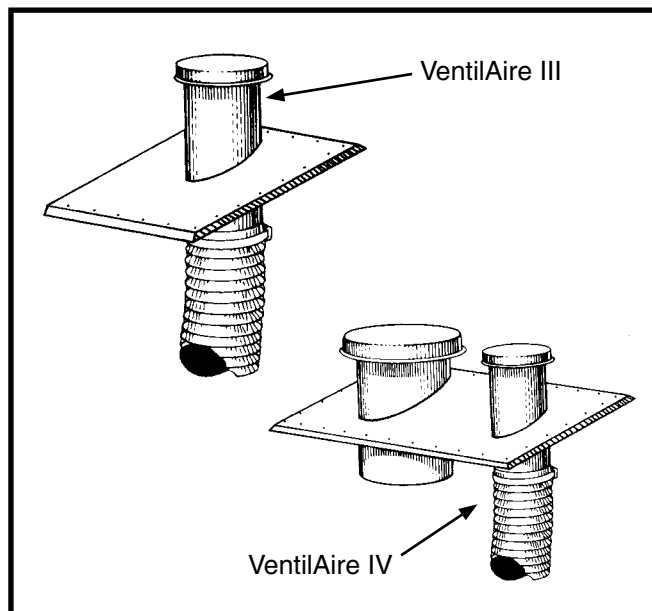

Figure 5. VentilAire III & IV
The Ventilaire air quality accessory packages are available to meet the ventilation requirements as outlined in H.U.D. Standard Part 3280.103 (b) (2). These packages introduce outdoor air into the living space during furnace blower operation. The VentilAire IV also serves to exhaust moist and/or hot air from the attic space. See Figure 5 for typical installation. Complete installation instructions are supplied with each air quality package.